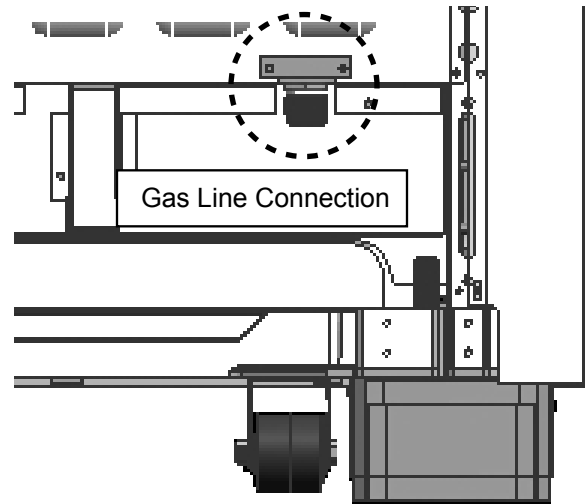

FIGURE 13: MANIFOLD GAS LINE CONNECTION
- Use 3/4" (19mm) flex line to connect between the gas supply and the appliance inlet pipe, which exits at the rear, lower right of the appliance. The appliance pipe connection has a 3/4" (19mm) NPT external thread and a 1/2" (13mm) NPT internal thread (see *Figure 13*). Use caution to avoid crimping the 3/4" (19mm) flex line when making bends. Suggested length of the flex line is 48" (1219mm); however, check local codes for requirements before installation.